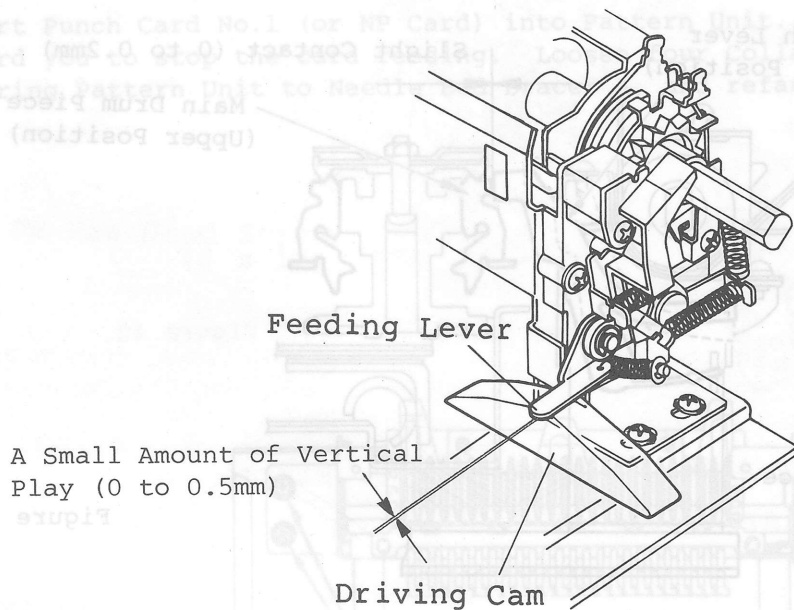

Figure 46.
1. Position the Carriage so that the Feeding Lever is raised to its uppermost position by Driving Cam on the rear side of the Carriage as shown in Figure 46. Check to see if the vertical play of Feeding Lever is provided only slightly by pulling the lever upward with finger. The maximum play must not exceed 0.5mm.